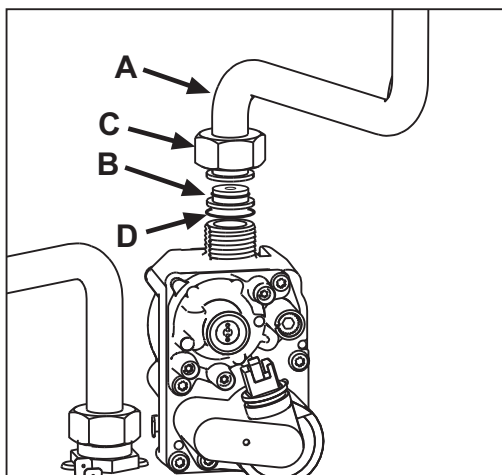

fig. 22
3. Unscrew the ring **C** and remove the gas pipe **A** from the gas valve (see fig. 22).
4. Replace the nozzle **B** inserted in the gas pipe with that contained in the conversion kit, interposing seal **D** (see fig. 22).